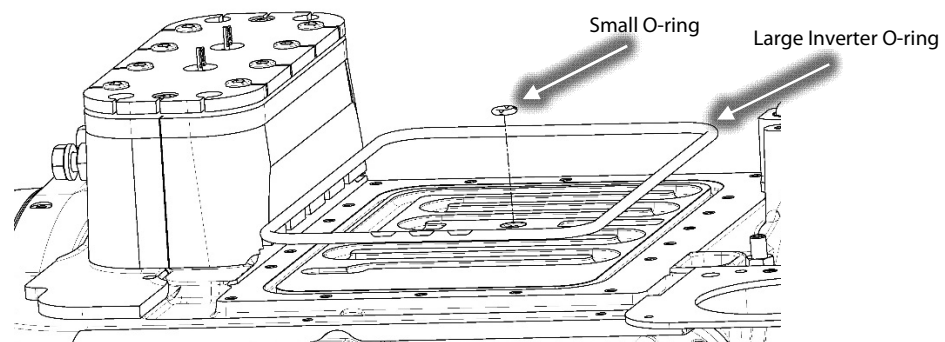

Figure 24 – Inverter O-ring Installation
5. Apply O-Lube to the Inverter O-ring provided and place the O-ring in the compressor housing groove. Refer to Figure 24 (Inverter O-ring Installation) for this and the following step.